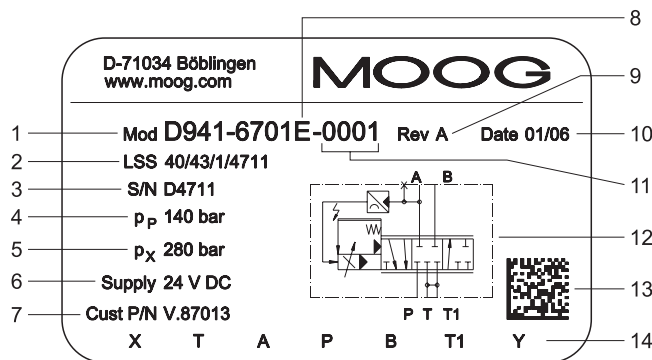

Figure 29: Nameplate (example)
Table 16: Item numbers of the nameplate in Figure 29
⇒ Figure 29, page 47, item 1 ⇒ Figure 29, page 47, item 9 ⇒ Figure 29, page 47, item 3